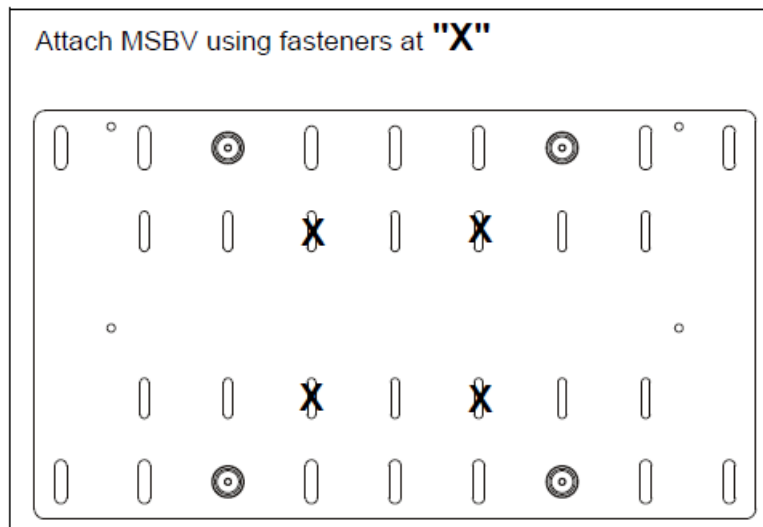

Figure 2
2. Attach the MSBV bracket (A) using the hole pattern on back of display and holes noted at "X". (See Figure 2)